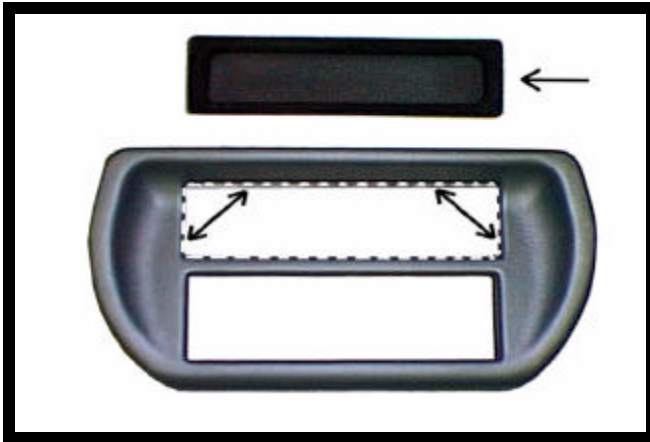

FIGURE 12
16. Remove and discard storage pocket (item 10 pg 2). Using a razor knife, carefully trim away plastic flange to allow for CD player. See Figure 12. Make diagonal cuts at the corners to make it easier when breaking tabs.